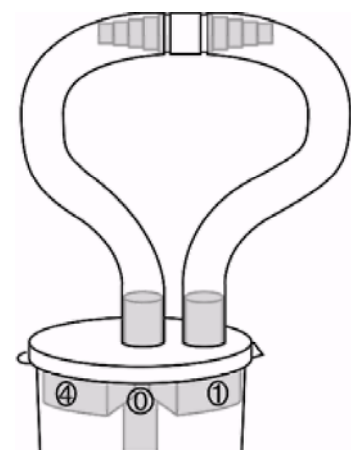

Fig. 4
- Bend center tube towards outside tube and insert dual-ended male adaptor to connect both tubes. Suction Polyp Trap sealed as shown lid (Fig. 4).